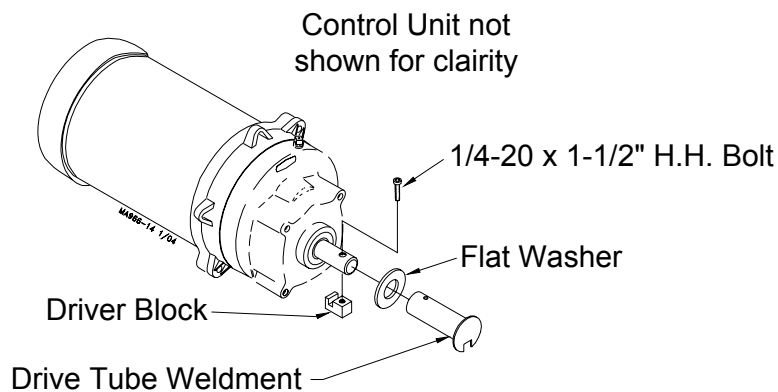

Figure 35. Auger Driver Components
5. Slide the Drive Tube and flat washer over the output shaft on the Power unit, **see figure 35.**